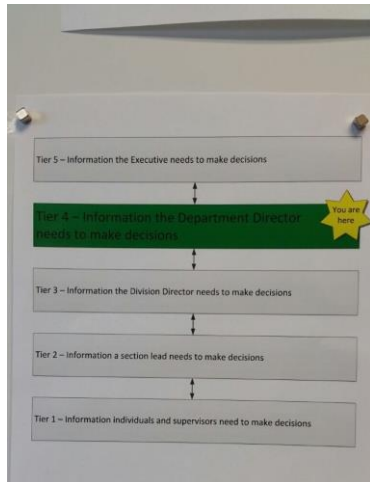

Figure 5
- “You are here”: A clear legend that shows the relationship between the tier boards and identifies what board you are looking at (Figure 5)